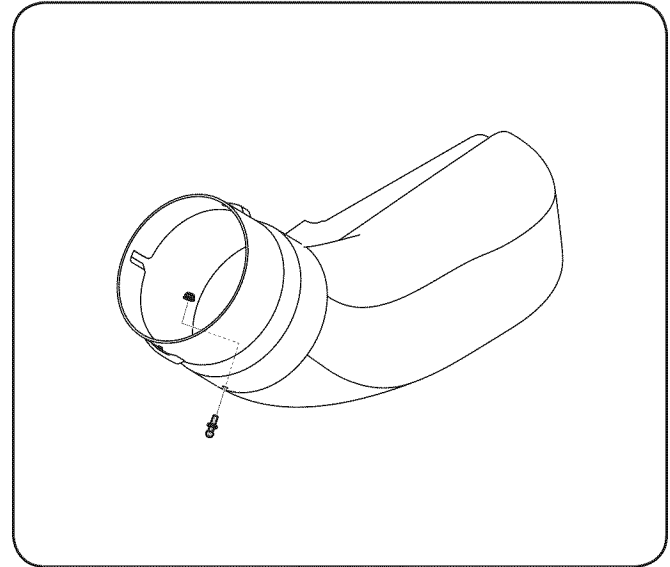

Figure 4-21
1. Locate the chute elbow and install the grass-catcher pin (911-04069) from hardware pack 689-00094A to the chute elbow in the hole provided as shown in Fig. 4-21. Secure the grass-catcher pin with a flange lock nut (712-04064) from the same hardware pack.